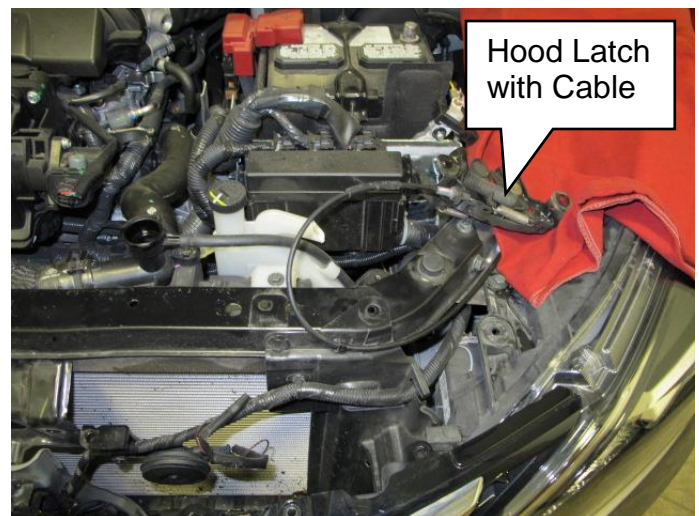

Figure 11
17. Gently position the hood latch w/cable attached to the right side as shown in Figure 11.